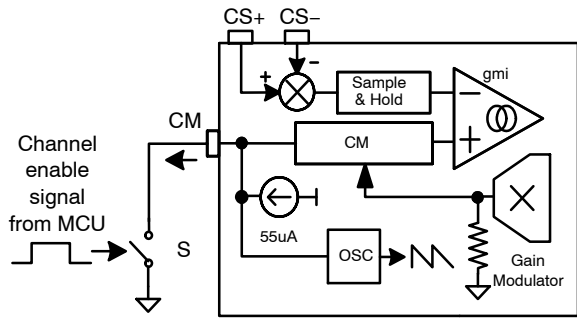
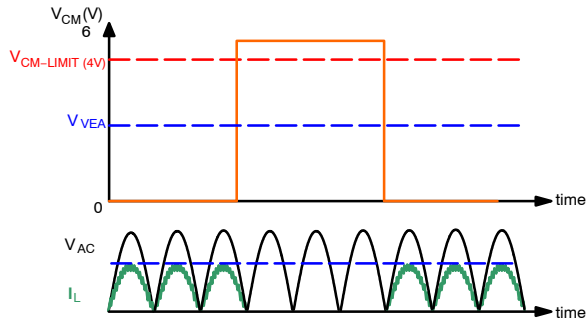

Figure 14. Channel Management by MCU
Figure 15. Channel Management by MCU
Channel Management (CM) function can also be accessed by an MCU through the connection shown in Figure 14. CM pins have internal pull-up current source. If $V_{CM} > 4V$, the channel is disabled. To enable the channel, make $V_{CM} = 0V$, as shown in Figure 15.